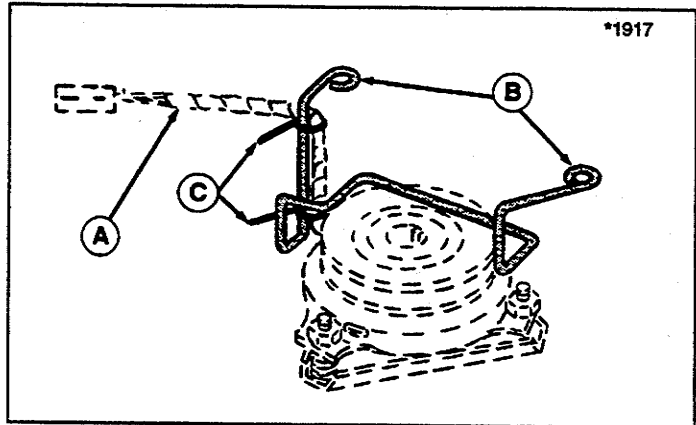

Figure 40. PTO Wiring Harness
4. Remove ties securing PTO wiring harness to belt stop and disconnect harness. See figure 40.
To avoid personal injury, use caution when moving spring-loaded pulley (A, figure 40). Spring tension is strong. Do not remove belt (B) from spring-loaded idler pulley (A). Remove belt from left and right idler pulleys (C & D).